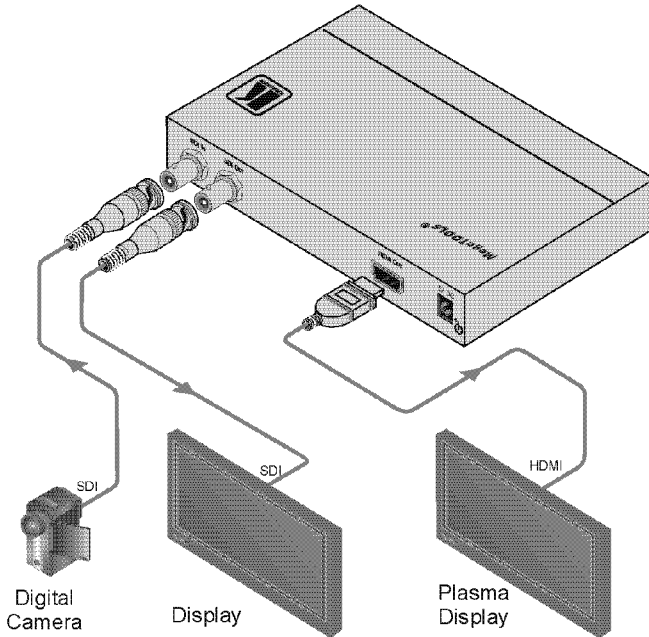

Figure 3: Connecting the VP-472 SDI to HDMI Scaler
To connect the VP-472, as illustrated in the example in Figure 3:
4. Connect the 5V DC power adapter to the power socket and to the mains electricity (not shown in Figure 3).